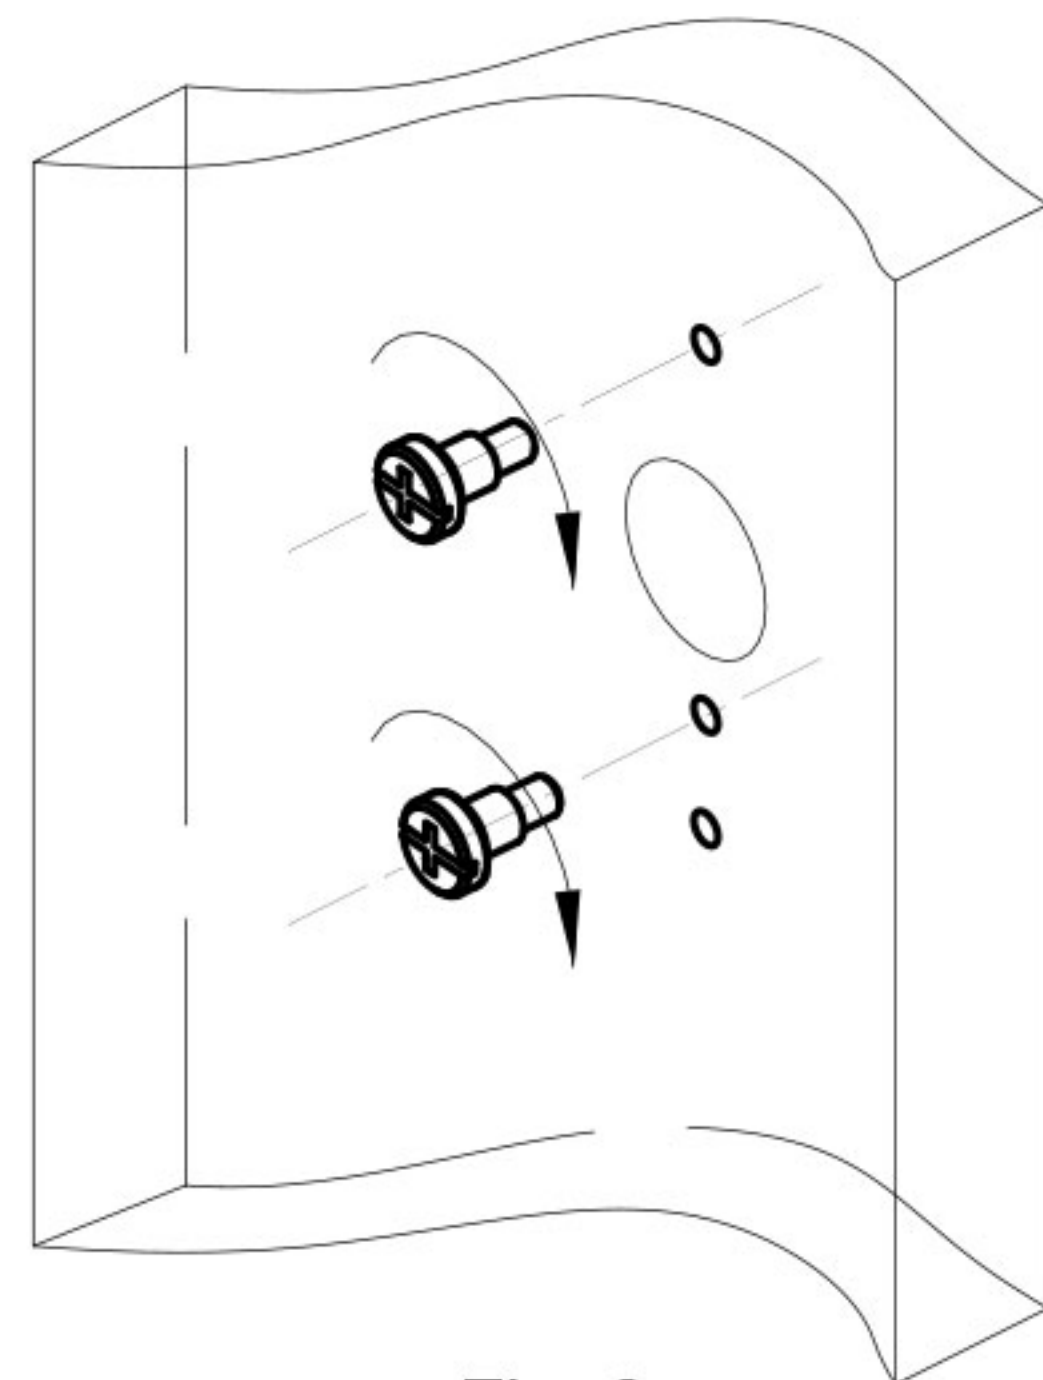

Fig. 3
2. Use the two 8-32 mounting screws to mount onto the door.(Fig. 3)